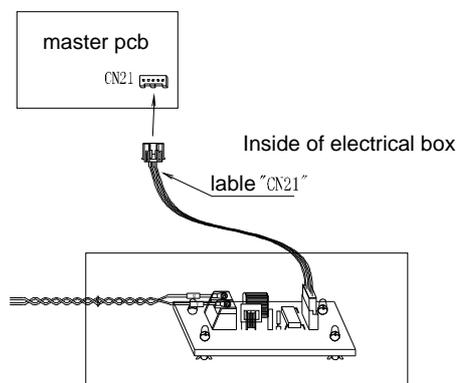

图 3
- As shown in figure 3 .Connect the bring wiring of the expanded pcb (labeling CN21) to the terminal CN21 of master pcb.